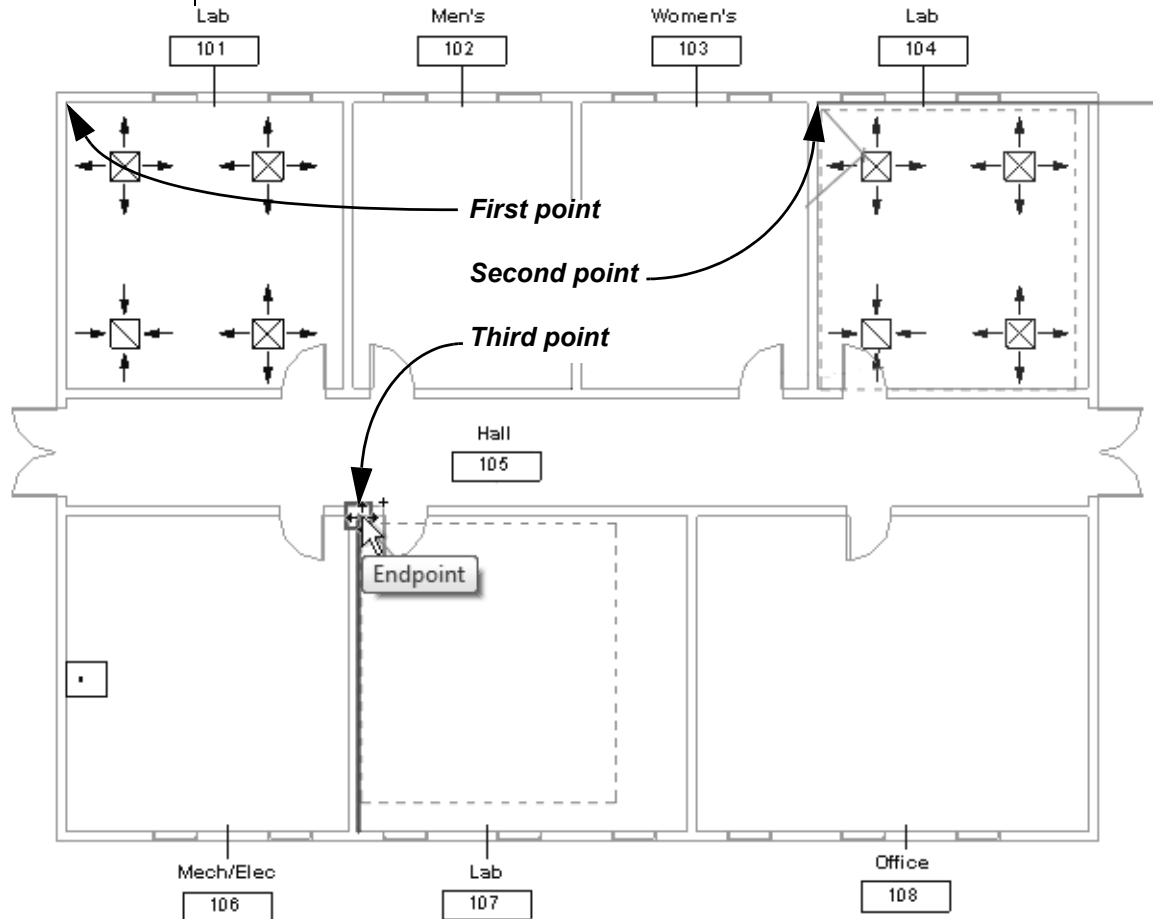

Figure 2–80
6. Select the upper-left corners of the following rooms, as shown in Figure 2–80: